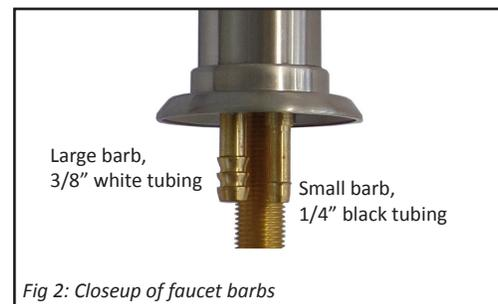

Fig 2: Closeup of faucet barbs
8. Push the 3/8" white tubing onto the 3/8" fitting (larger barb) located on the faucet base. See Fig. 2.